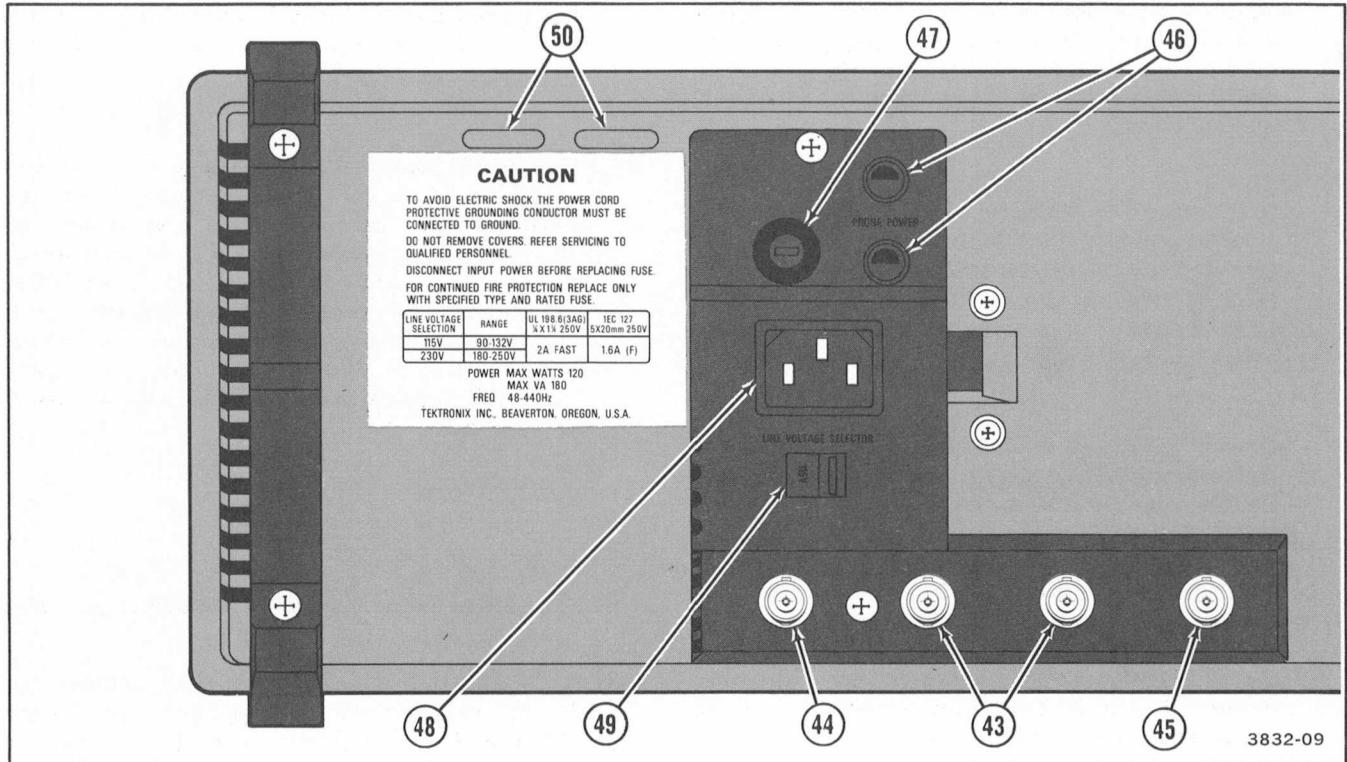

Figure 3-6. Rear-panel controls and connectors.
Refer to Figure 3-6 for location of items 43 through 50.
- (43) **A GATE OUT and B GATE OUT Connectors**—Provide TTL-compatible, positive-going gate signals that are HI during their respective sweeps and LO while the sweep is not running. When the A SEC/DIV switch is set to 5 ns per division, an output gate is present at both the A GATE OUT and the B GATE OUT connectors.